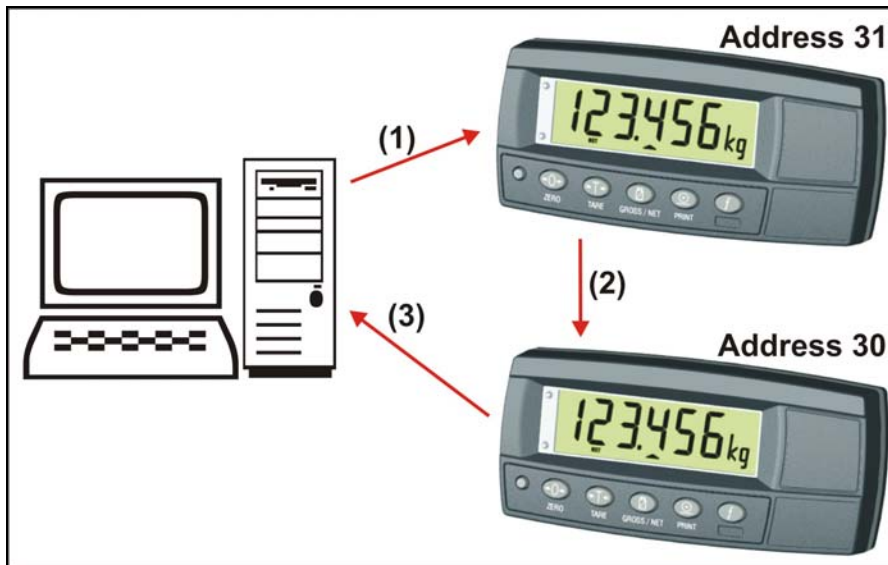

Figure 7: RS-232 Ring Network: Example with Two Instruments
A typical command from a PC, shown as (1) in the example Ring Network in Figure 7 above, might be: